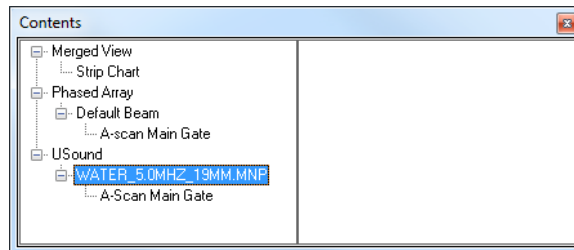

Figure 10-2 Example of the Contents dialog box with a PASS file
5. In the **Contents** dialog box (see Figure 10-2 on page 446), select the desired view or views for the imported PASS file.